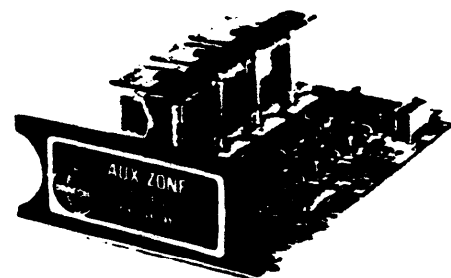

Fig. 12—Type 1 Auxiliary Zone Card
3.42 The Type 1 Auxiliary Zone Card (Fig. 12) provides the basic paging for four additional zones. It also permits background music and talk-back in the zones if the corresponding optional cards are provided.